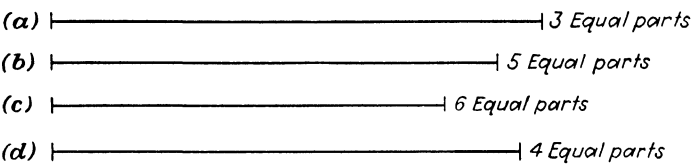

Fig. 45a.
5. Measure each of the lines in Fig. 45a to the nearest 64th. Divide each line into the number of equal parts indicated. What is the length of each part as a ruler fraction?